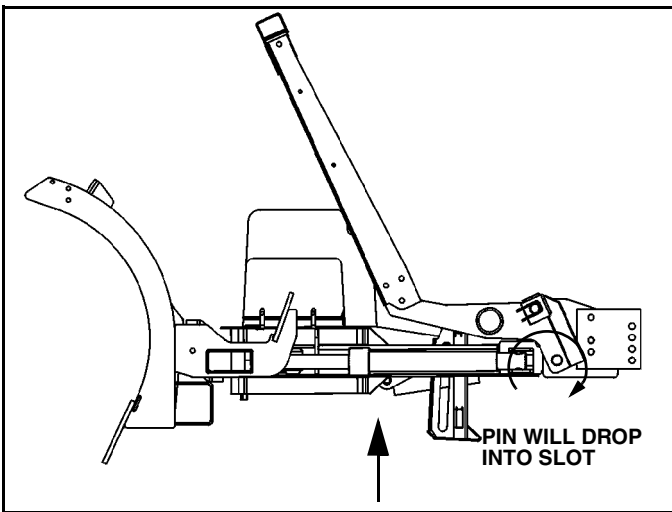

Figure 1-9
3. Rotate light/lift bar into position by turning on down pressure and pressing the lower button. (See Figure 1-9).